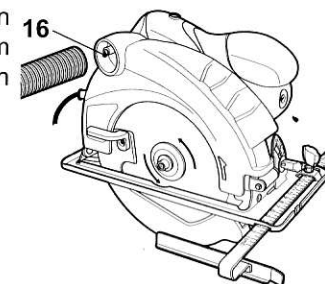

Fig. 2
- > Attach a proper dust extraction device, e.g. a suitable vacuum cleaner, to the dust extraction outlet (16) (Fig. 2).